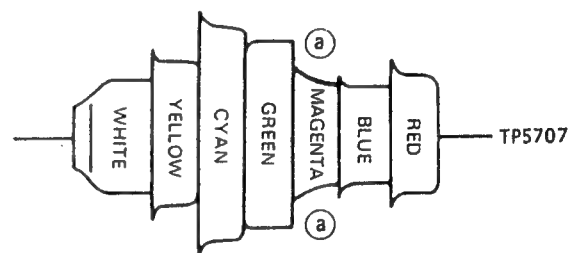

Figure 2-17.
1. Adjust T5702 so that the output at point ① should be as shown in Fig. 2-17.